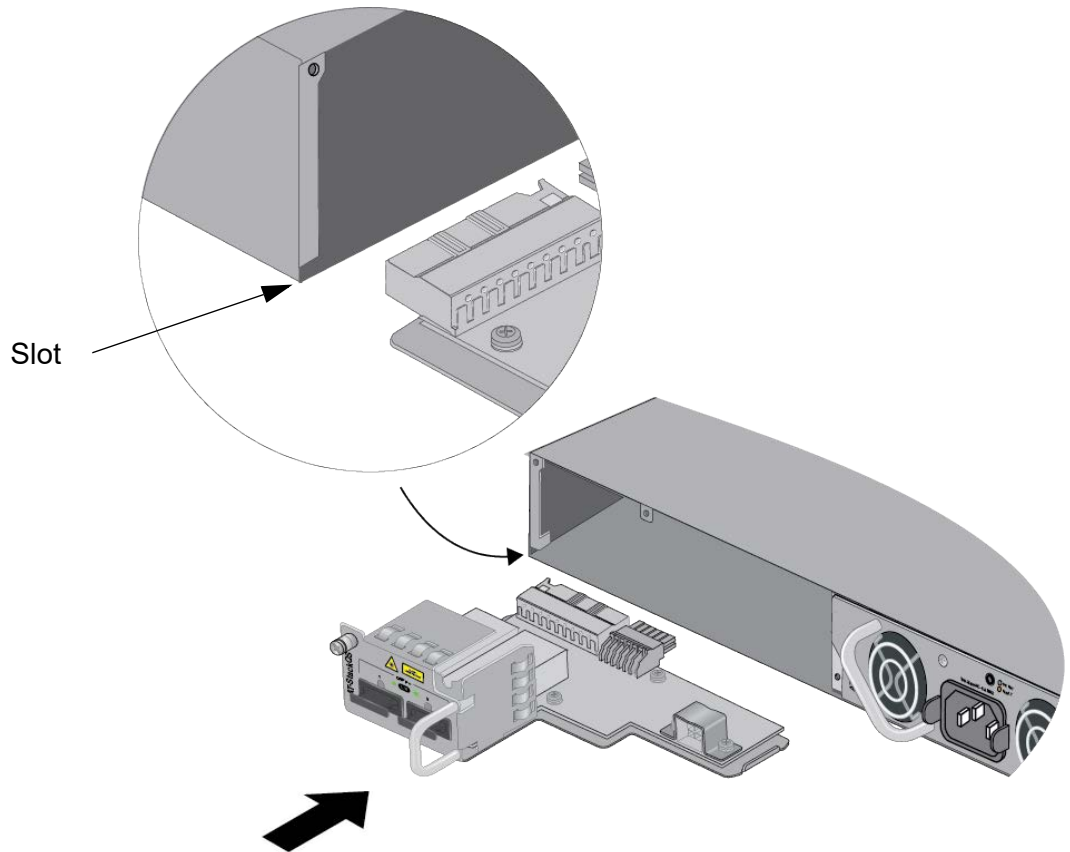

Figure 35. Aligning the Card in the Slot
8. Carefully align the card in the slot and slide it into the switch. The left edge of the card fits into the slot in the bottom corner of the switch. Refer to Figure 35 on page 89.